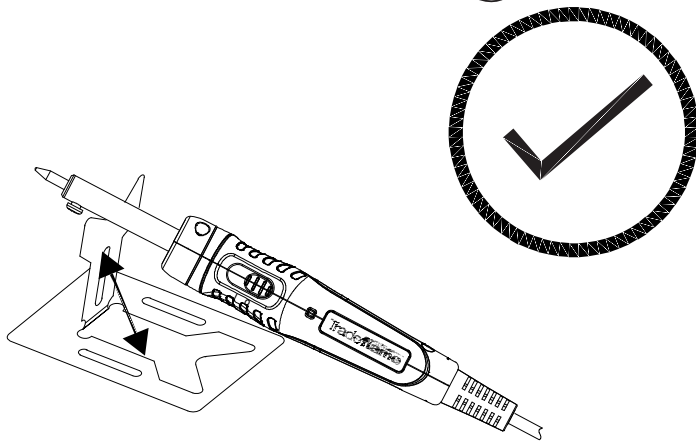

Fig. 2 - Correct storage of Soldering Iron when not in use
- While in use do not stand or store Soldering Iron on its side. Soldering Iron could tip resulting in contact between hot tip and flammable materials. Always set/store Soldering Iron on metal stand provided (Fig. 2)
4. Connect Soldering Iron to mains current and place on the metal stand provided (Fig. 2).
13. Place Soldering Iron on Metal Stand provided on its side with the tip away from working area (Fig. 2)